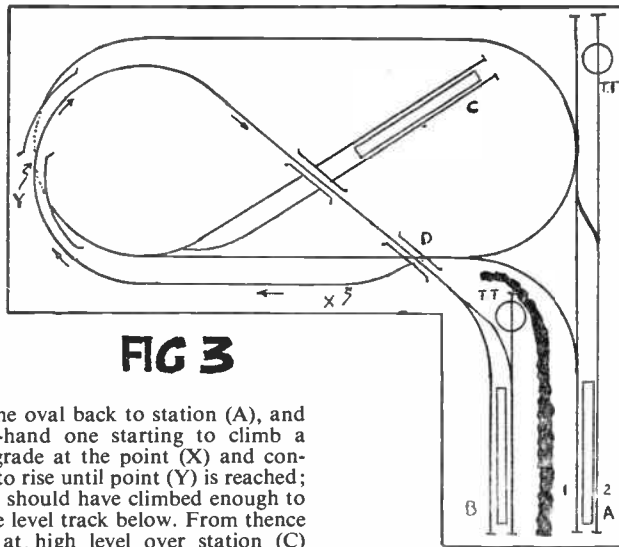

FIG 3
In Fig. 3 is shown a thorough-going layout of rather large dimensions which occupies two sides of the railway room, and is designed for use where permanent housing can be obtained for a model. The two main terminal stations (A) and (B) have no connection with each other except by way of the tracks which make up the running oval, and a hill, a wall, or some other scenery should be built up between them to maintain them in apparent isolation, as shown.